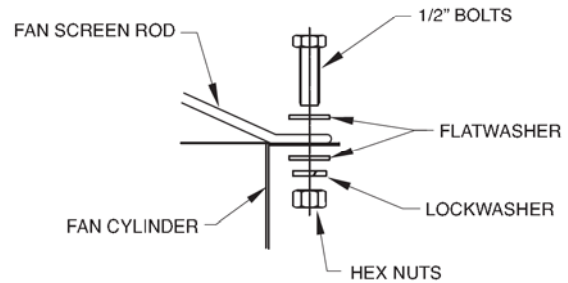

Figure 18 - Attaching Fan Screen to Cylinder
2. At each hole, attach the fan screen to the discharge cylinder as shown in Figure 18.
4. At each hole, attach the fan screen to the discharge cylinder as shown in Figure 18. At the four points where the support frame meets the cylinder, bolt the support frame to the cylinder together with the fan screen.